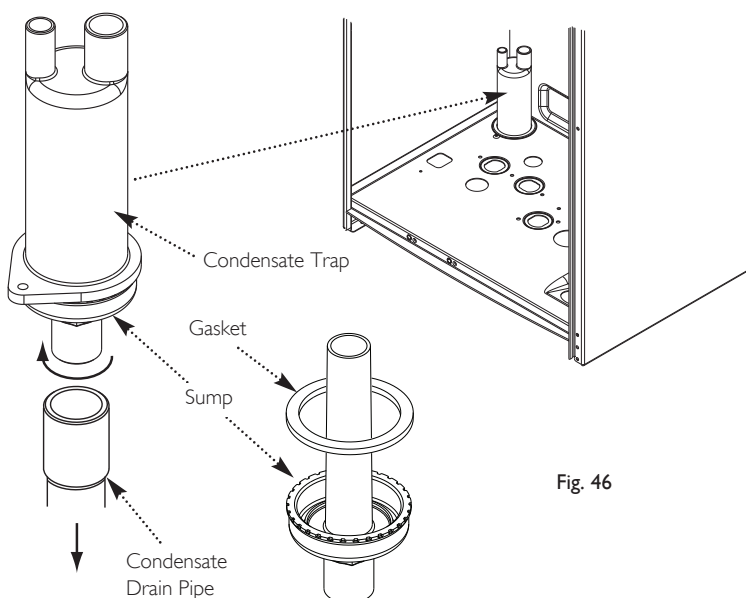

Fig. 46
4. Disconnect the condensate drain pipe and unscrew the sump from the bottom of the condensate trap assembly (Fig. 46). Remove any deposits from the sump and trap. Clean as necessary and replace the sump.